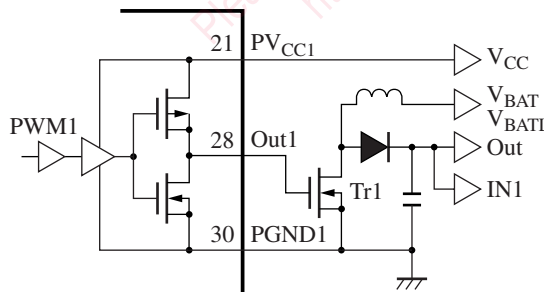

Figure 11
- (1) Output circuit is CMOS configuration.
- The circuit block of ch.1 output part and the peripheral circuit example are shown in figure 11.